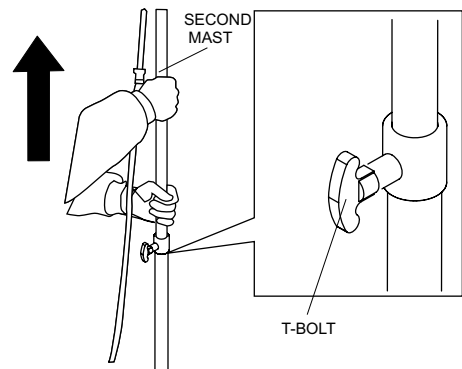

Figure 19. Raising the Second Mast
1. Raise the second mast to the desired height and tighten the T-bolt securely. See Figure 19.